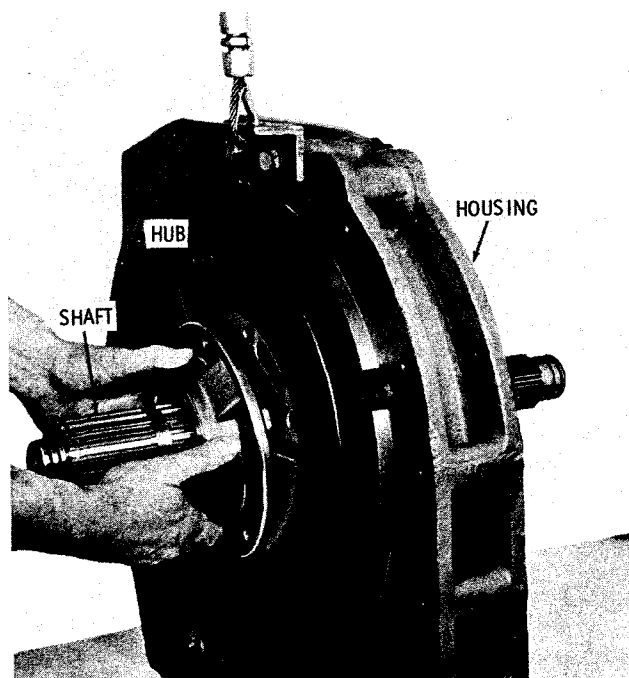

Fig. 7-42. Installing oil transfer hub (CBT, CLBT, prior to S/N 35993) S1689
(4) Install the oil transfer hub (fig. 7-42). Retain the hub with five 1/2-13 x 1 1/4-inch bolts and lockwashers. Tighten the bolts to 67 to 80 pound feet torque.